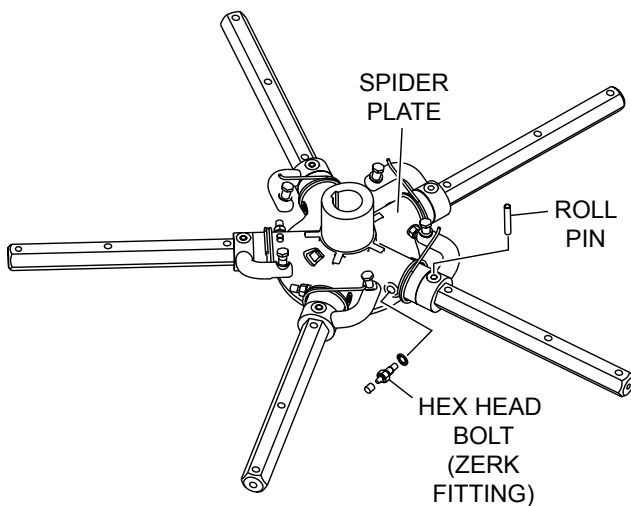

Figure 38. Remove Roll Pin and Zerk Fitting
2. Each trowel arm is held in place at the spider plate by a hex head bolt (zerk grease fitting) and a roll pin. Remove both the hex head bolt and the roll pin (Figure 38) from the spider plate.
Trowel arms can be damaged by rough handling, (such as dropping the trowel on the pad), or by striking exposed plumbing, forms, or rebar while in operation. A bent trowel arm will not allow the trowel to operate in a smooth fluid rotation. If bent trowel arms are suspect, check for flatness as follows, refer to Figures 38 and 39: